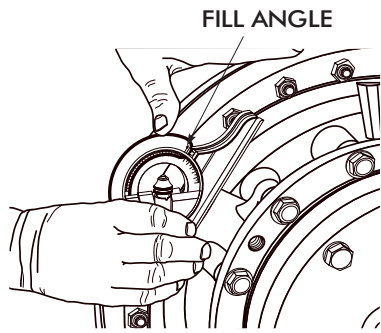
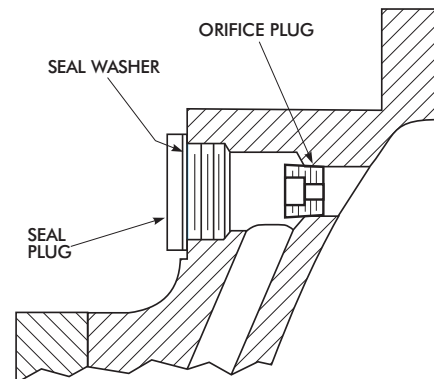

Figure 6
Figure 9
- B. Use either a angle finder (P/N 1224653) or a bevel protractor with spirit level set for the required fill angle, and place it on flat boss of the filler hole as shown in Figure 6. Start at 0° (Figure 9).
The 1000 Series fluid couplings contain 3 orifice plugs (metric threaded) located near the perimeter of the casing. They are located behind three metric hex socket seal plugs (see Figure 9). The function of these orifice plugs is to meter the fluid exiting from the delay fill chamber into the working circuit of the fluid coupling. Orifice plugs are initially furnished as follows: 2.5mm hole (Sizes 1420-1660HFD), 3.5mm hole (Size 1760HFD), and 5.0mm hole (Size 1870HFD). These standard hole sizes result in acceptable starting times for most applications. Should your application require increased or reduced starting times, refer to Table 3 at right for other orifice hole sizes and their estimated affect on starting time. These estimates are based on the change in flow rate for the fluid to exit the delay fill chamber.